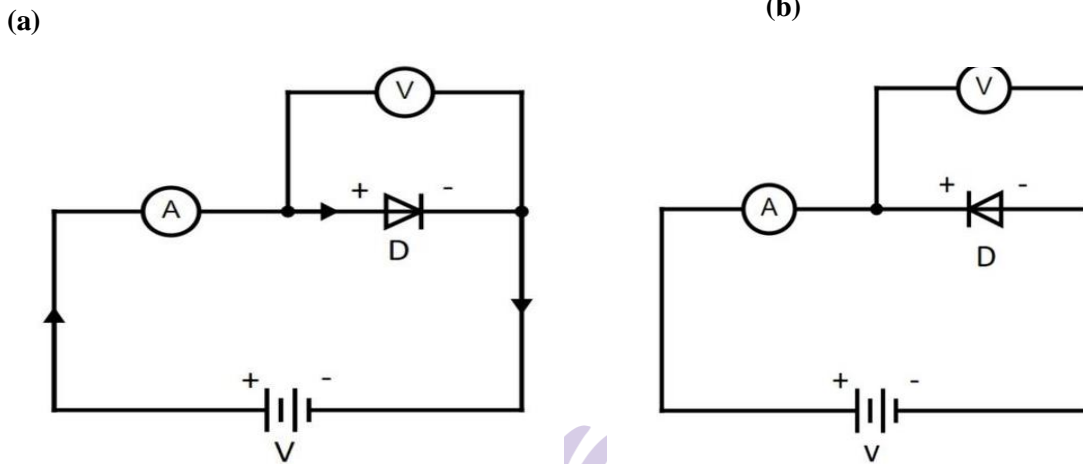

Figure 3.Circuit diagram of (a) Forward and (b) Reverse biasing
1. Make the circuit according to fig.3 use 10V range for voltmeter and 50 μ A range for current meter.